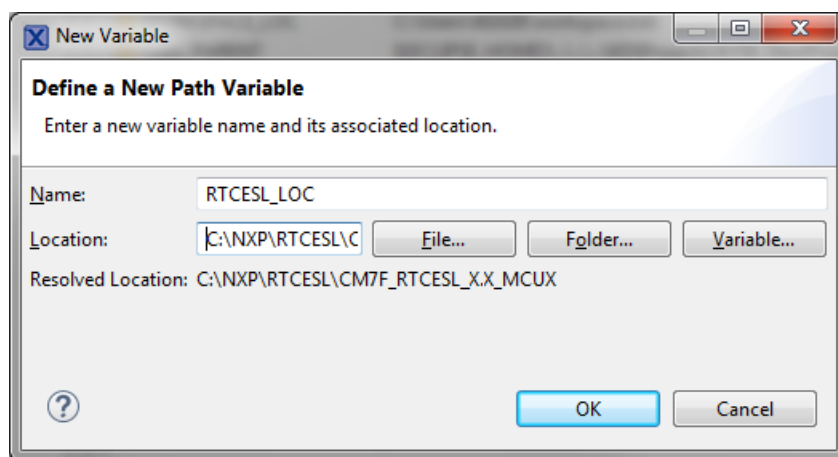

Figure 1-4. New variable
4. In the dialog that appears (see Figure 1-4), type this variable name into the Name box: RTCESL_LOC.